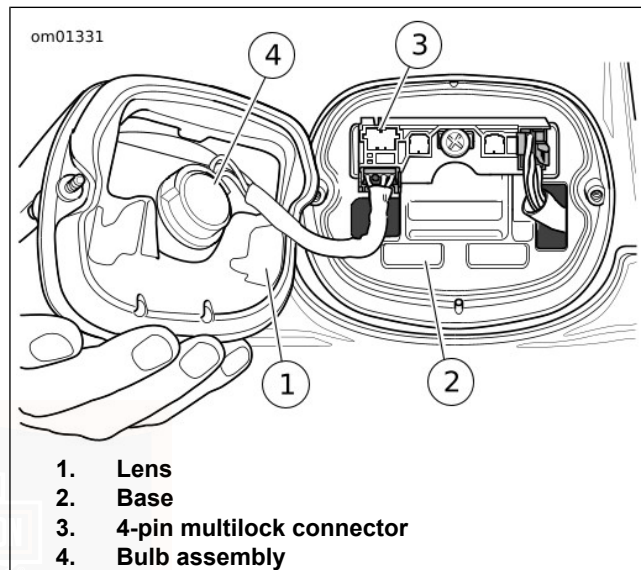

Figure 66. Tail Lamp Assembly
1. See Figure 66. Make certain ignition switch is turned off.